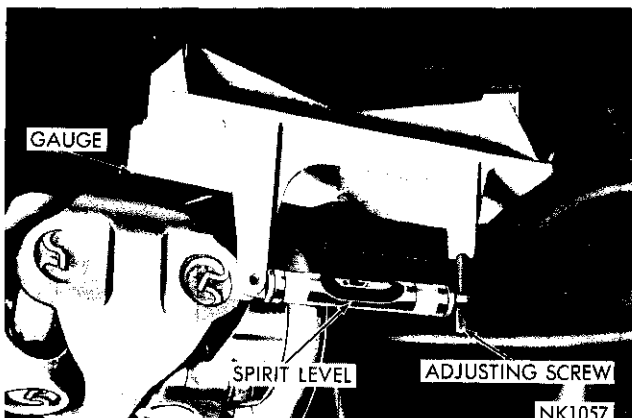

Fig. 20—Measuring Rear Axle Angle AY-1 Models
(2) Hold alignment gauge C-3976 on the machined bosses of the differential carrier (Fig. 20). Adjust the